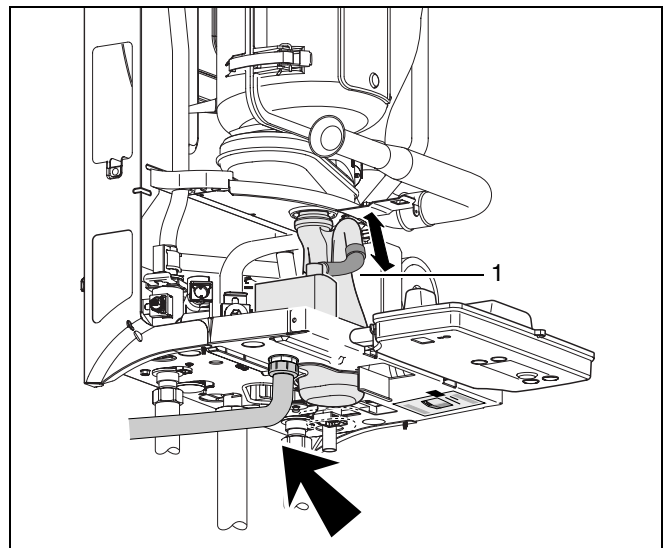
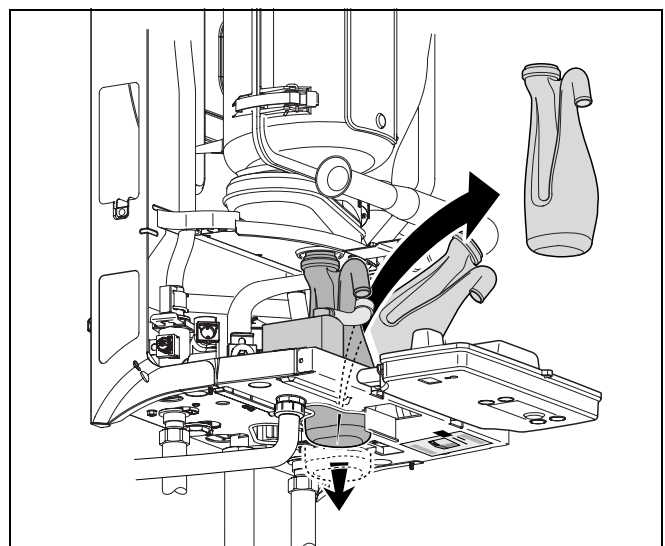

fig. 64 Disconnect hose from condensate trap
fig. 65 Remove the condensate trap
- Remove the condensate trap (fig. 64 and fig. 65).
- Undo the condensate drain connection (see fig. 64, item 1) and remove the syphon.